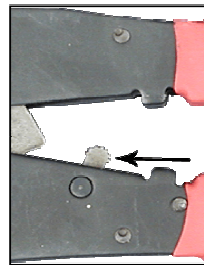

FIGURE 1
1. TO OPEN TOOL, SQUEEZE HANDLES HARD OR PUSH RELEASE LEVER (FIGURE 1) FORWARD WHILE SQUEEZING HANDLES TO RELIEVE TENSION. FIRST IDENTIFY THE CABLE SIZE AND SELECT THE PROPER SIZE SLEEVE. PLACE THE SLEEVE ON THE CABLE AND MAKE A LOOP AROUND THE ITEM TO WHICH YOU ARE SECURING THE CABLE. NEXT, INSERT CABLE END THROUGH THE SLEEVE AND AT LEAST 1/8" OR MORE BEYOND (FIGURE 4). AFTER SWAGING, EXCESS CABLE MAY BE CUT OFF WITH C7 CUTTERS. THEN SELECT PROPER SIZE CAVITY. FOR SIZE 12 CABLE USE THE 3/32" CAVITY. WHILE HOLDING SLEEVE IN PLACE SWAGE 1/2 OF SLEEVE, OR ONE COMPRESSION. MOVE OVER AND SWAGE REMAINDER (SECOND COMPRESSION). TWO COMPRESSIONS ARE REQUIRED. THE TOOL WILL NOT RELEASE UNTIL COMPRESSION IS COMPLETE. CHECK SLEEVE FOR PROPER AFTER SWAGE DIAMETER WITH GAUGE PROVIDED. THE CLAMPING ACTION OF THE RATCHET ALLOWS THE SLEEVE TO BE HELD BY THE TOOL BEFORE COMPLETING THE SWAGE. THIS ALLOWS FOR USER TO ADJUST POSITION OF SLEEVE ON THE CABLE. IF TOOL ADJUSTMENT IS REQUIRED READ SWAGER MAINTENANCE AND ADJUSTMENT PROVIDED WITH YOUR TOOL.